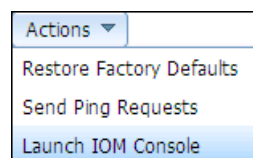

Figure 7-10 Actions button
- **Actions** option allows you to do the tasks shown in Figure 7-10.